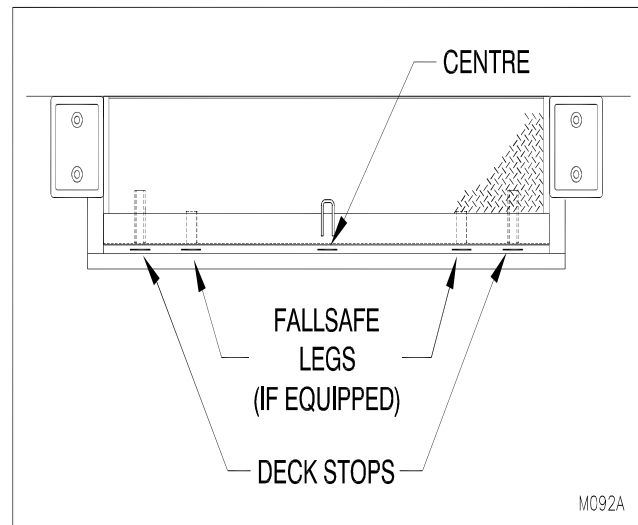

Figure 11: Dock Leveler Front Shims
2. ___ Lower dock leveler to the stored position and shim front frame under the two deck stops and in center of dock leveler until the deck is flush with the top of the front curb angle and the floor. If the dock comes with the mechanical fallsafe option then shim as indicated (See "Figure 11: Dock Leveler Front Shims" on page 14) Tack weld into position.